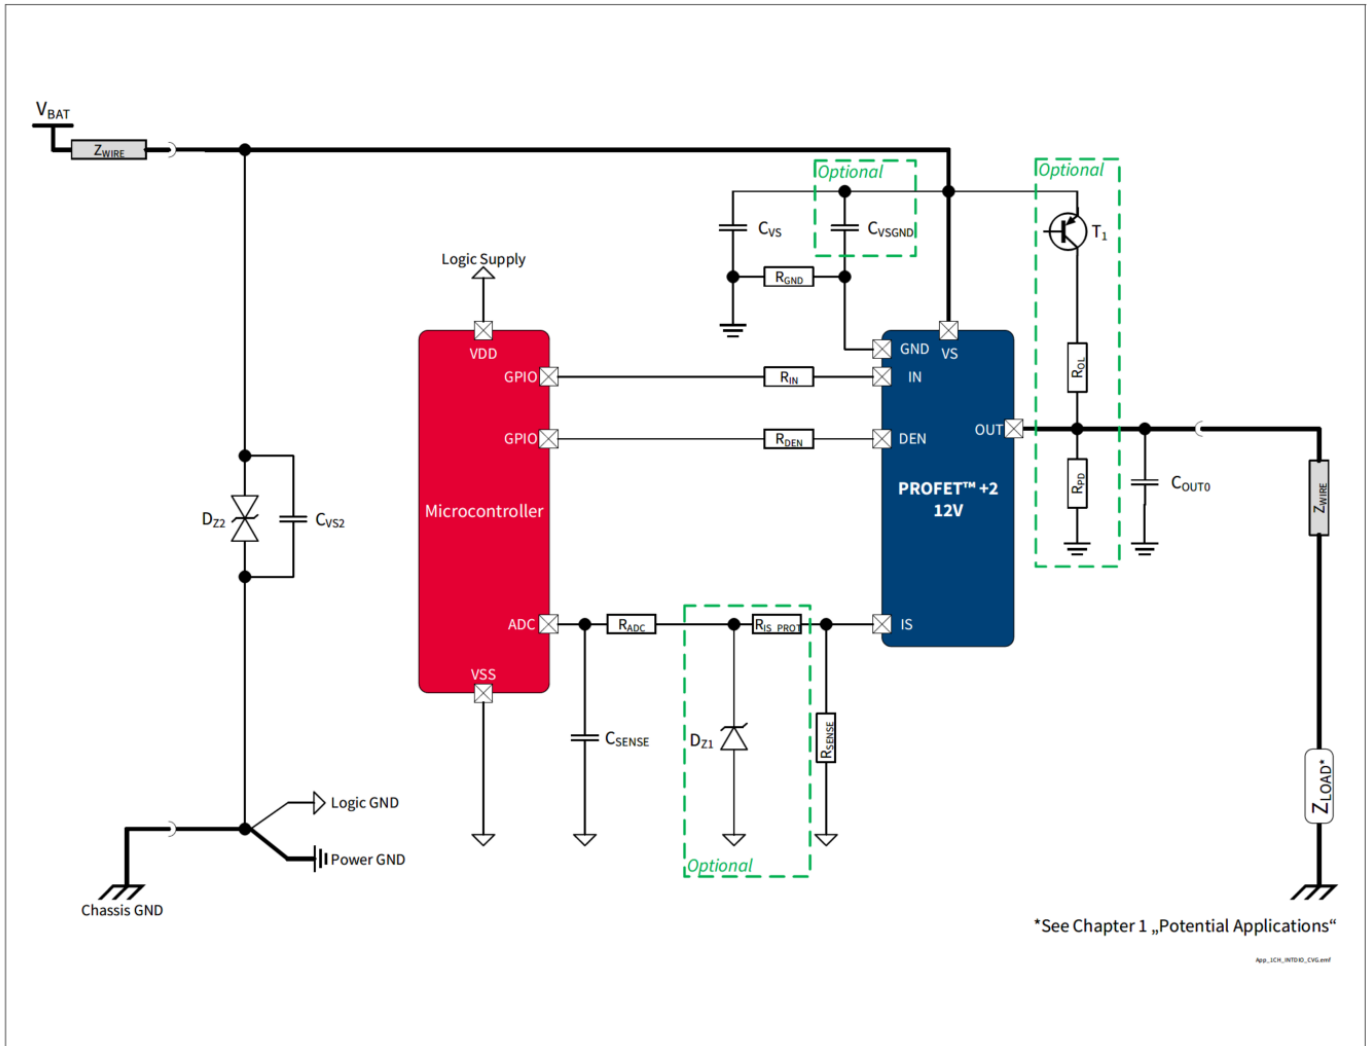

Figure 37 BTS7008-1EPP Application Diagram
1.10, 2020-12-14	<p>Typo fixed (PROFET™+2 → PROFET™ +2)</p> <p>Figure 1, Figure 16, Figure 17, Figure 18, Figure 20, Figure 21, Figure 22, Figure 25, Figure 29, Figure 30, Figure 34, Figure 37 updated</p> <p>Chapter 1, Chapter 6.1, Chapter 6.1.3, Chapter 6.1.4, Chapter 8.2, Chapter 9.2.2 updated</p> <p>Chapter 8.4.1 updated (typo fixed)</p> <p>P_7.4.5.1, P_7.4.5.2, P_7.4.5.3, P_7.4.5.4, P_7.4.5.6, P_7.4.5.7 updated (added in Note or Test Condition: See Figure 15)</p> <p>P_8.6.4.1 updated (added in Note or Test Condition: See Figure 26)</p> <p>P_8.6.4.2 updated (added in Note or Test Condition: See Figure 27)</p> <p>P_9.6.0.6 updated (Parameter: SENSE Operative Range for <math>k_{ILIS}</math> Operation (<math>V_S - V_{IS}</math>) → Saturation Voltage in <math>k_{ILIS}</math> Operation (<math>V_S - V_{IS}</math>))</p> <p>P_9.6.0.7 updated (Parameter: SENSE Operative Range for Open Load at OFF Diagnosis (<math>V_S - V_{IS}</math>) → Saturation Voltage in Open Load at OFF Diagnosis (<math>V_S - V_{IS}</math>))</p> <p>P_9.6.0.8 updated (Parameter: SENSE Operative Range for Fault Diagnosis (<math>V_S - V_{IS}</math>) → Saturation Voltage in Fault Diagnosis (<math>V_S - V_{IS}</math>))</p>
1.04, 2019-10-15	<p>P_8.7.21.1, P_8.7.21.7, P_8.7.21.8 updated (added in Note or Test Condition: link to Figure 24)</p> <p>P_7.5.20.5 updated (added in Note or Test Condition: see Figure 18)</p> <p>P_7.5.20.12 updated (added in Note or Test Condition: see Figure 20; deleted unnecessary space in Symbol: <math> dV_{OUT} / dt </math> → <math>dV_{OUT} / dt</math>)</p> <p>P_8.7.21.6 updated (added in Note or Test Condition: see Figure 25)</p> <p>P_9.7.20.1 updated (added in Note or Test Condition: see Figure 32)</p> <p>Figure 1, Figure 37 updated</p> <p>P_4.3.0.7 added</p> <p>Table 22 updated</p> <p>Chapter 5.1 updated (added: see Chapter 10 for the complete application setup overview)</p> <p>Chapter 9.2 updated (<math>2 V</math> → <math>V_{DS(OLOFF)}</math>)</p> <p>General: updated (ReverSave™ → ReverseON)</p>
1.01, 2018-06-14	<p>Page numbering corrected</p> <p>Figure Application Diagram, Figure 29, Figure 37 updated</p>